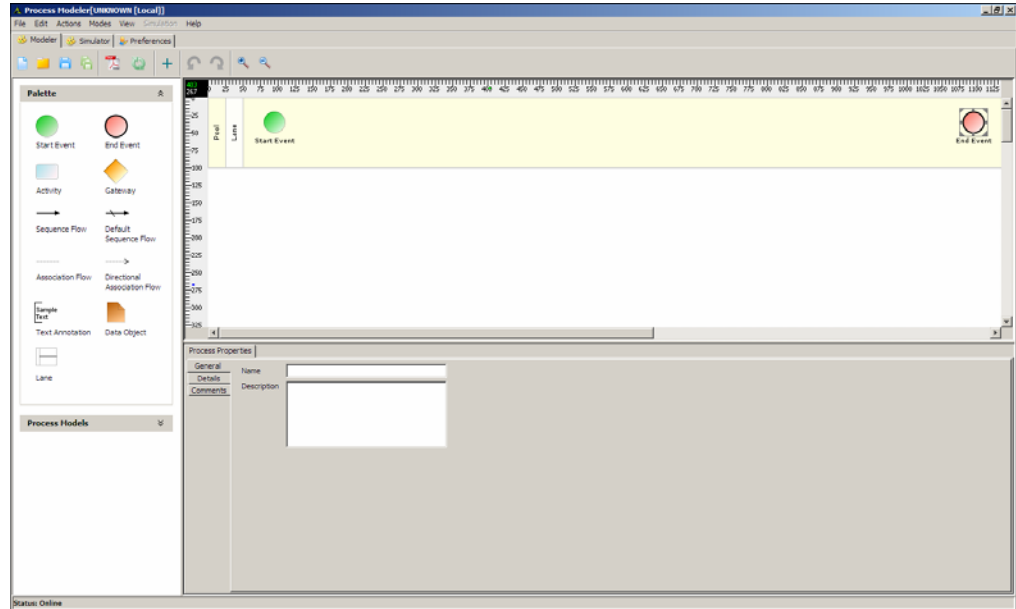

Figure 7.3: Process Modeler
5. Click **Process Modeler** button. The Process Modeler applet is displayed (see Figure 7.3).